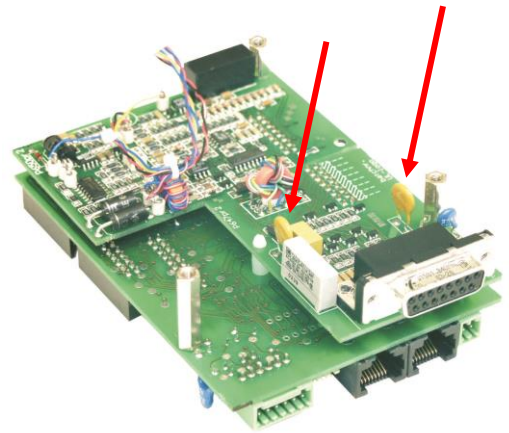

fig 6 - 1
- Check fuse F27\_2 in series with  $\emptyset$  (pin 8 of CON E), see fig. 6 - 1. To check the fuse measure the voltage between  $\emptyset$  and the minus output, a high voltage means too much current flowing through the fuse. F27\_2 = 650 mA, self resetting.